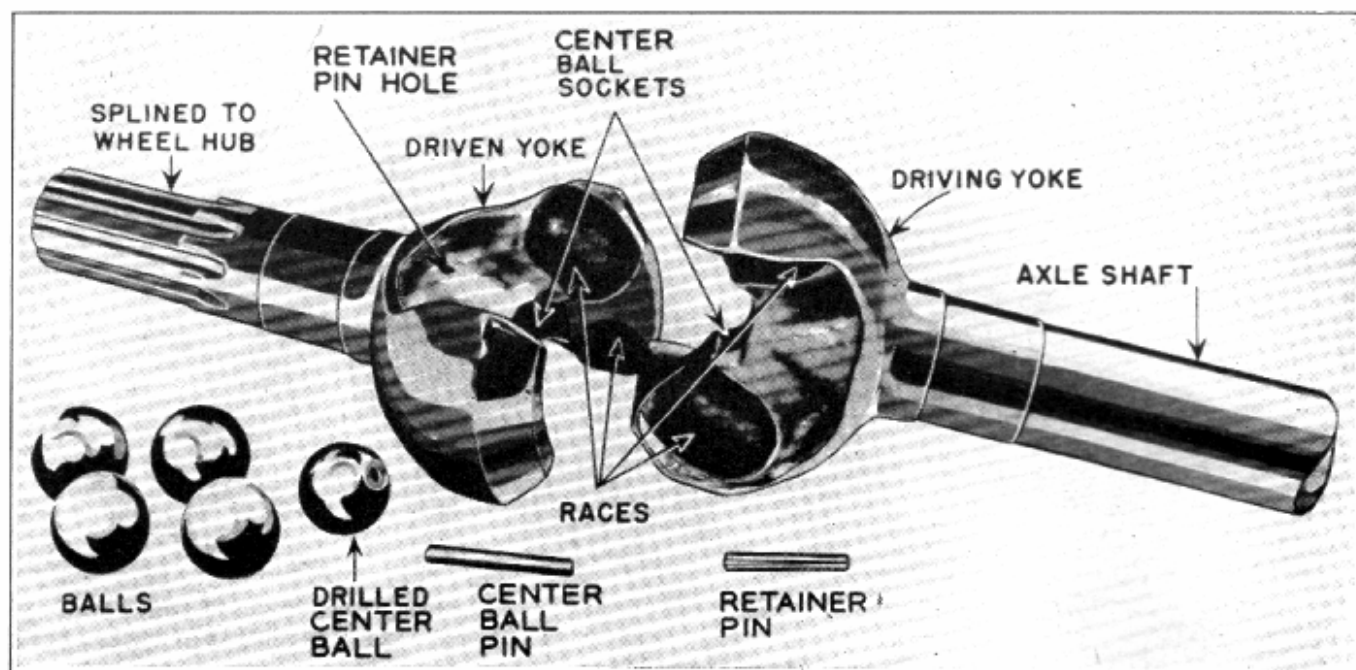

Fig. 20—Exploded View of Universal Joint
4. Pull the two halves of the joint apart and with the finger, turn the centre ball so that the groove in it lines up with the race, to permit the adjacent driving ball to be moved past the centre ball, when the joint is swung at an angle. The remaining three driving balls and the centre ball will then drop out. See Fig. 20.
Inspect the balls and race-ways. If a race-way is scored, or the balls cracked or flattened, the complete axle shaft and universal joint assembly should be replaced. An illustration of a disassembled axle shaft and universal joint assembly is shown in Fig. 20.